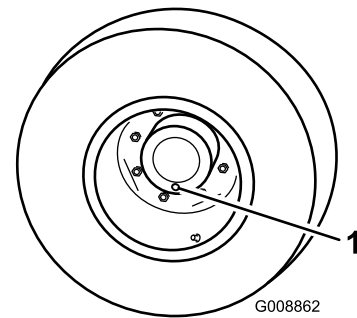

Figure 70
1. With the machine on a level surface, position the wheel so that the check/drain plug (Figure 70) is at the lowest position.